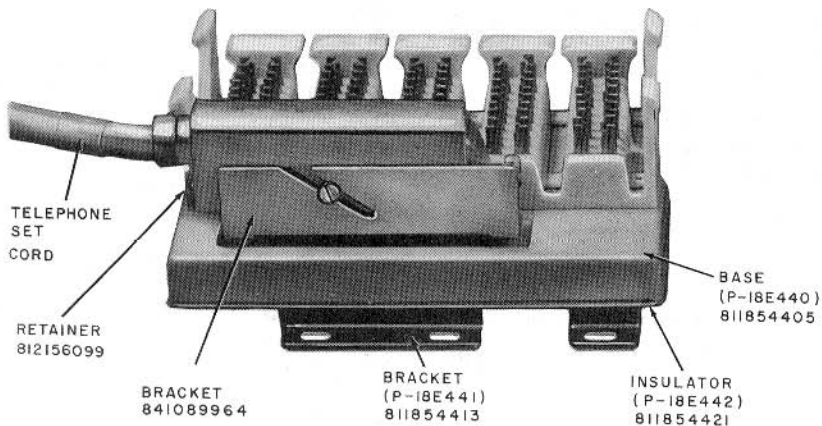
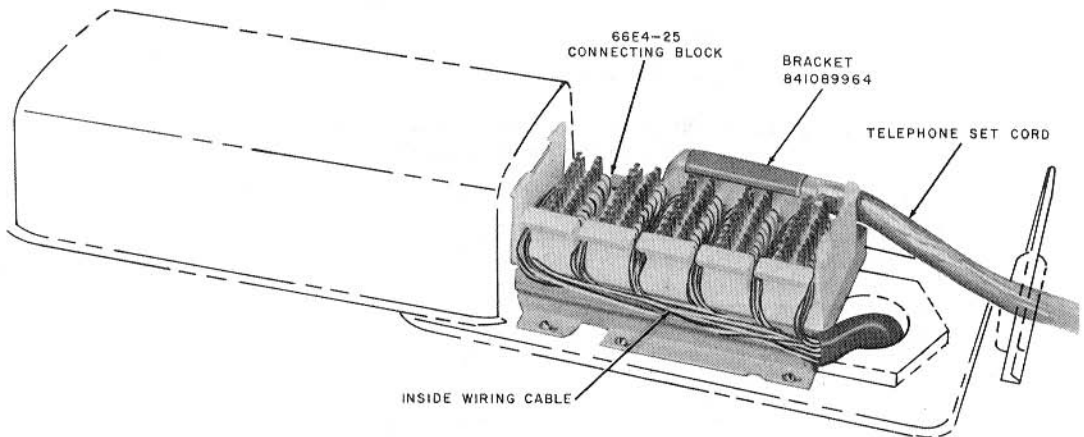

Fig. 2—66E4-25 Connecting Block
Fig. 5—66E4-25 Connecting Block Installed in Commercial Fitting
2.04 The 66E4-25 connecting block (Fig. 2) is equipped with a molded plastic base without cable trough or cover; it incorporates a mounting bracket which allows mounting in commercial type underfloor duct service fittings. ♦Cover for 66E4-25 connecting block must be furnished by customer and should be similar to that shown in Fig. 5.♦
3.03 This connecting block is designed for use with existing commercial underfloor or overfloor duct service fittings. Fig. 5 shows its use with a commercial service fitting. If tapped holes in the fitting do not line up with holes in the connecting block mounting bracket, drill holes in the fitting to accept No. 8 self-tapping screws.